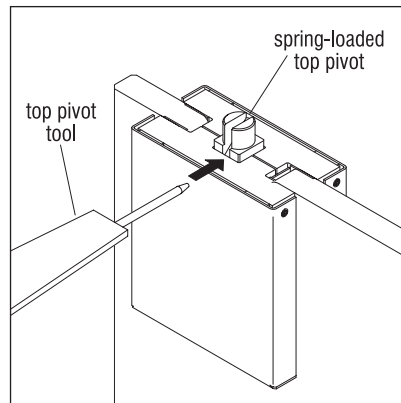
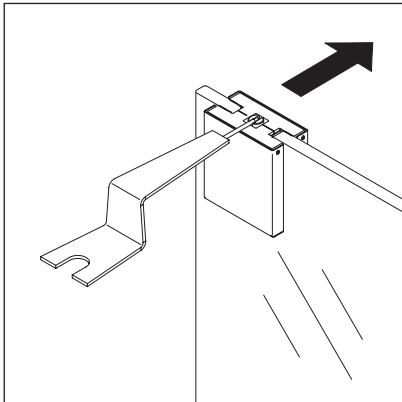
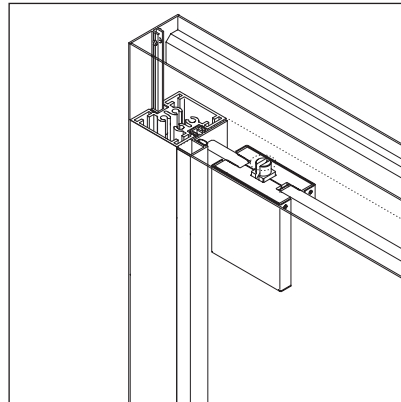

Figure 2 - Depress Spring-loaded Pivot
Figure 3 - Move Door into Position
Figure 4 - Release Spring-loaded Pivot
2. Depress the spring-loaded top pivot using the supplied tool (Figure 2). Next, move door into position (Figure 3), then release the spring-loaded pivot into the top pivot plate (Figure 4).